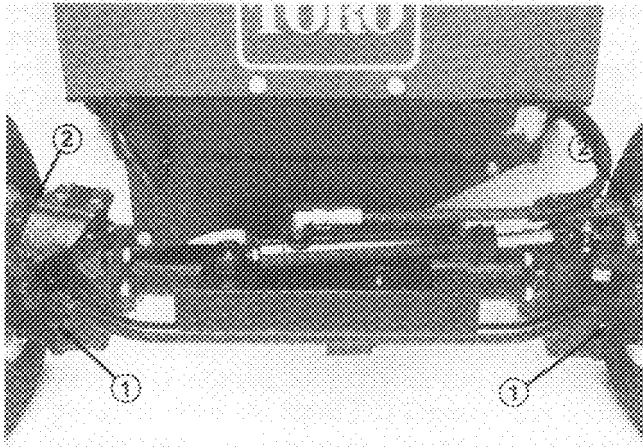

Figure 19
2. Remove a check plug from each end of axle and make sure lubricant is up to bottom of hole. If level is low, remove one of the mounting bolts above each end plug and add enough lubricant to bring the level up to the bottom of the hole (Fig. 19).